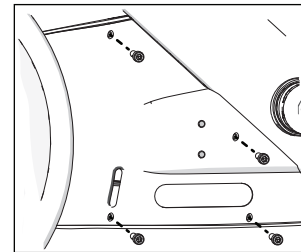

Figure 5
3. Remove the four bolts holding on the back cover and remove it (Figure 5).